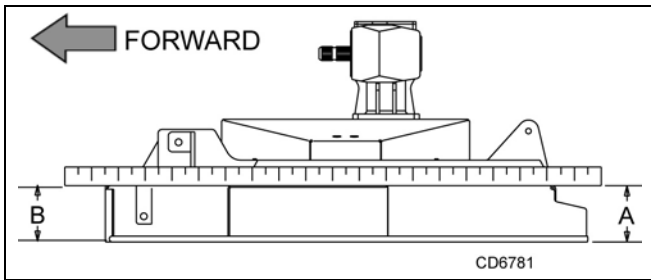

Figure 4. Cutting Height Adjustment
6. Adjust front of mower level with or slightly lower than the rear to obtain best mowing results. See Figure 4.
Remember, measurement at location A (Figure 4) should not be less than location B and should not be over 1/2" greater than location B.